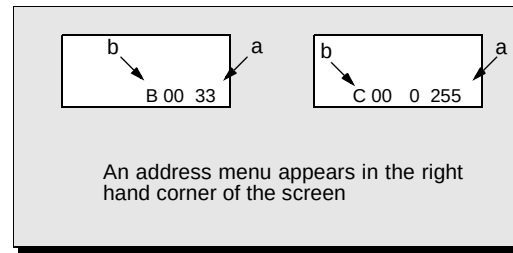

Figure 13. **Service mode menu adjustments.**
Note: *Only the applicable settings for the receiver serviced will be available (see a in Fig. 13).*
1. Press **CHANNEL up/down** on the remote control to select one of the available service adjustments (a in Fig. 13).
Note: Write down the original value set (b in Fig. 13) for each address before modifying anything. It is easy to erroneously adjust the wrong item.
2. Press **VOLUME up/down** on the remote control to adjust the level of the selected service adjustment (b in Fig. 13).